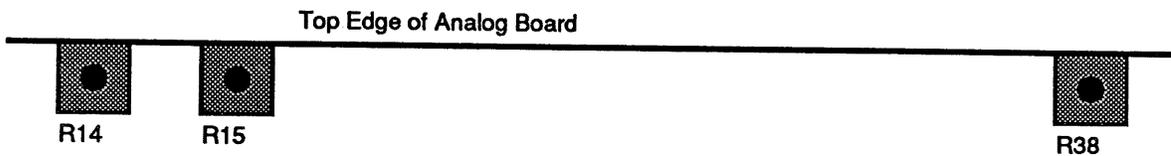

Figure 4-6. R14, R15, R38 Locator.
- 4) Use voltmeter to check adjustable pots R14, R15 and R38 on Analog Board (A2). Pots are easily accessed along top edge of Analog Board (see Figures 4-6, 4-7, 4-8).